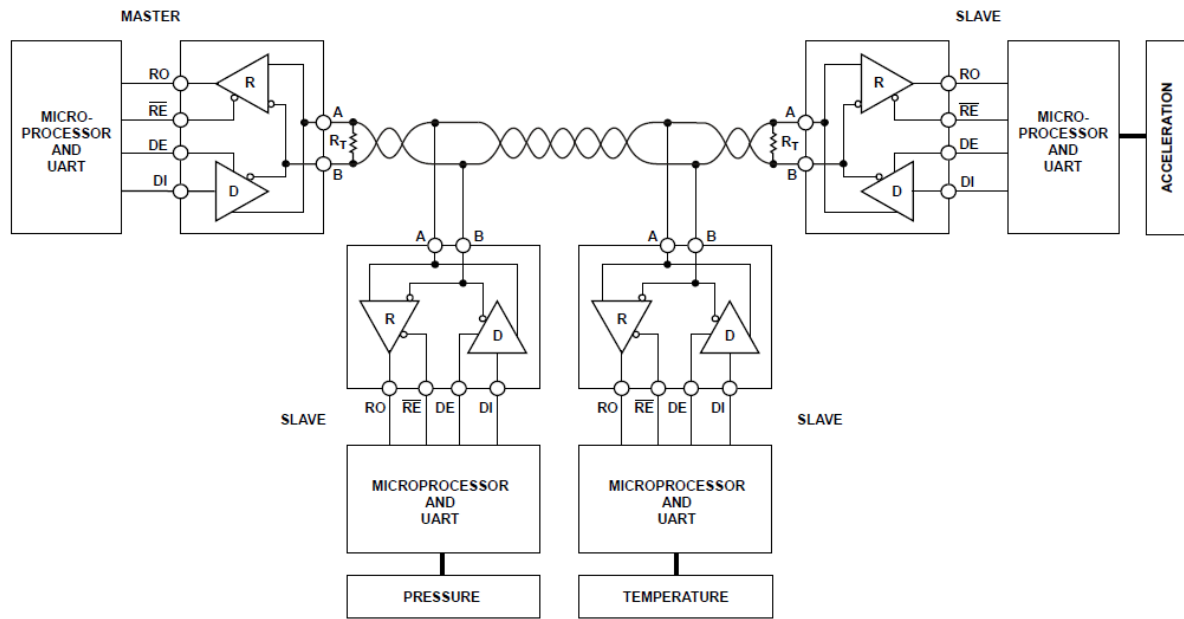

FIGURE 13 - MASTER/SLAVE RS-485 NETWORK WITH NO FAIL-SAFE BIASING OF THE NETWORK.
In Figure 13 a configuration of a master/slave RS-485 network with no fail-safe biasing is shown. A synchronous data transmission is typically used in many industrial applications. A start bit indicates the start of a bit sequence and is detected when a transition occurs from high to low. Eight data bits and a parity bit follow the start bit. A stop bit that can be one or two bits long follows this bit sequence. A following start bit starts the next bit sequence. When the last character is sent the line should stay high until the next start bit. This causes problems in multipoint applications when the transceivers connected on the bus are in receive mode simultaneously. This is known as a bus idle condition and in this case, the differential voltage on the bus ($V_{OA} - V_{OB}$) is 0 V. Under this condition, the receiver output (RO) is undefined by the RS-485 standard and, thus, the receiver output can produce random data. This data is connected to the UART and can cause erroneous system operation.